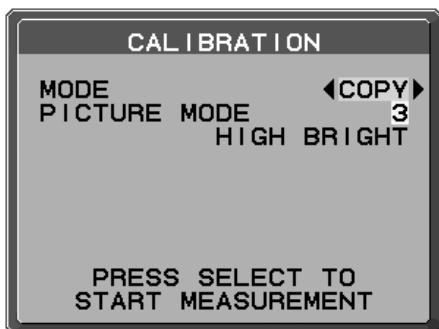

Figure C.3
2. Using "LEFT" or "RIGHT" of Display B, select COPY in the MODE selection (**Figure C.3**).